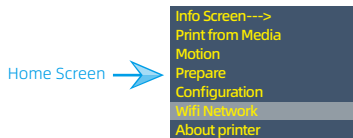

Figure 25
01. Follow the steps below to put the 3D printer into network setup mode, as shown in Figures 25, 26, and 27.